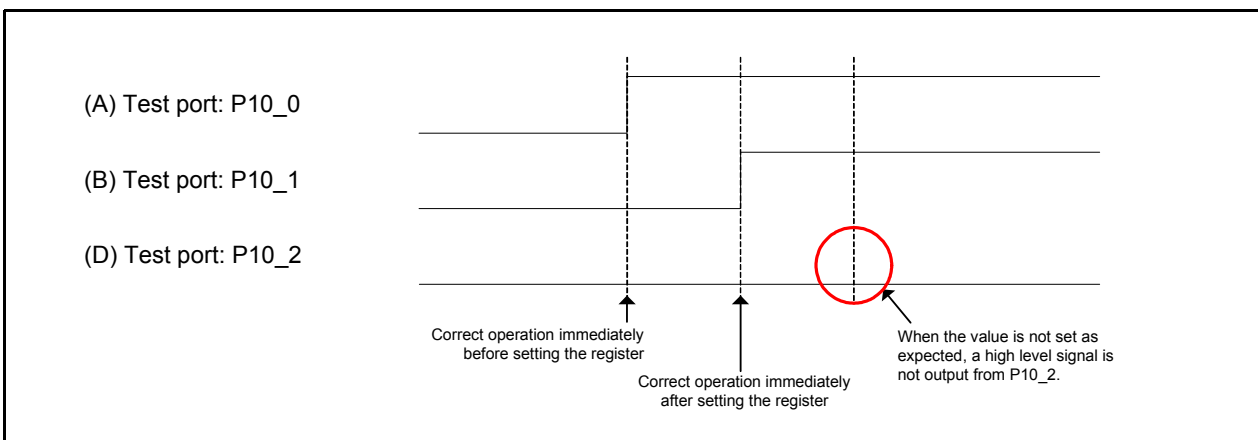

Figure 4.5 Waveform when the Value is Not Set as Expected
A high level signal is not output from test port (D) as shown in Figure 4.5. The register may be write protected or the specific setting procedure may have to be followed. Refer to the User's Manual: Hardware to confirm the condition for the register setting and its setting procedure.